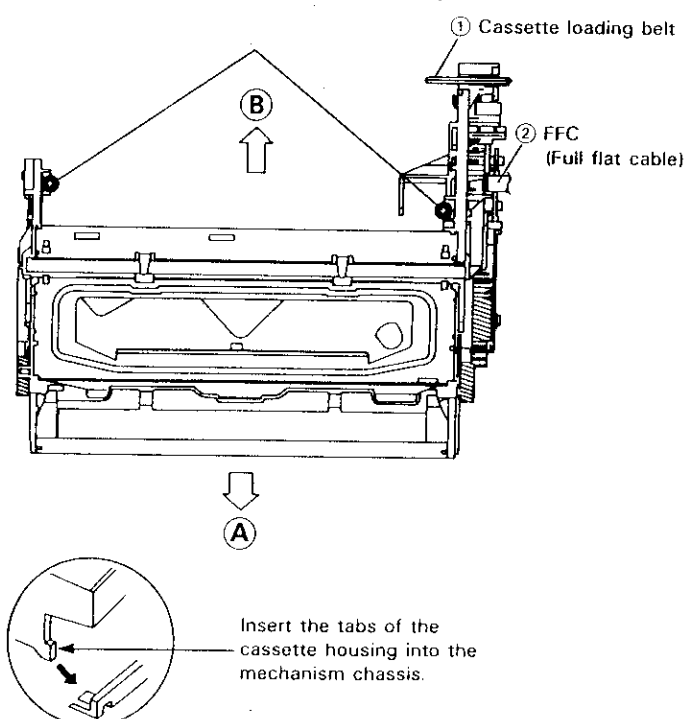

Figure 1-1.
2. Remove the cassette loading belt ①.
3. Disconnect the FFC (Full Flat Cable) ② at the right side of the cassette housing control assembly.
5. Move the cassette housing control assembly (Fig. 1-1) in the direction of arrow ⇒ ⑥, and pull it out straight upward.